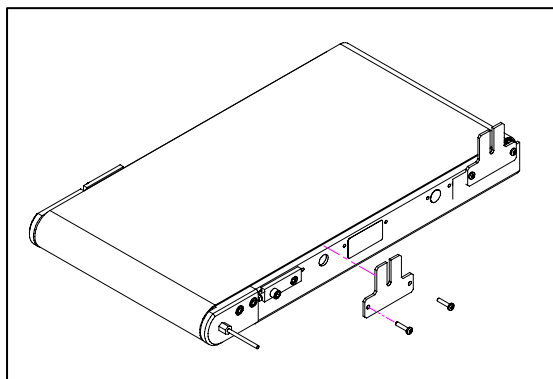

Figure 1
a. Attach the Guide Brackets to the conveyor frame using the 10-32 x 7/8" Torx Head Screws provided (Figure 1).